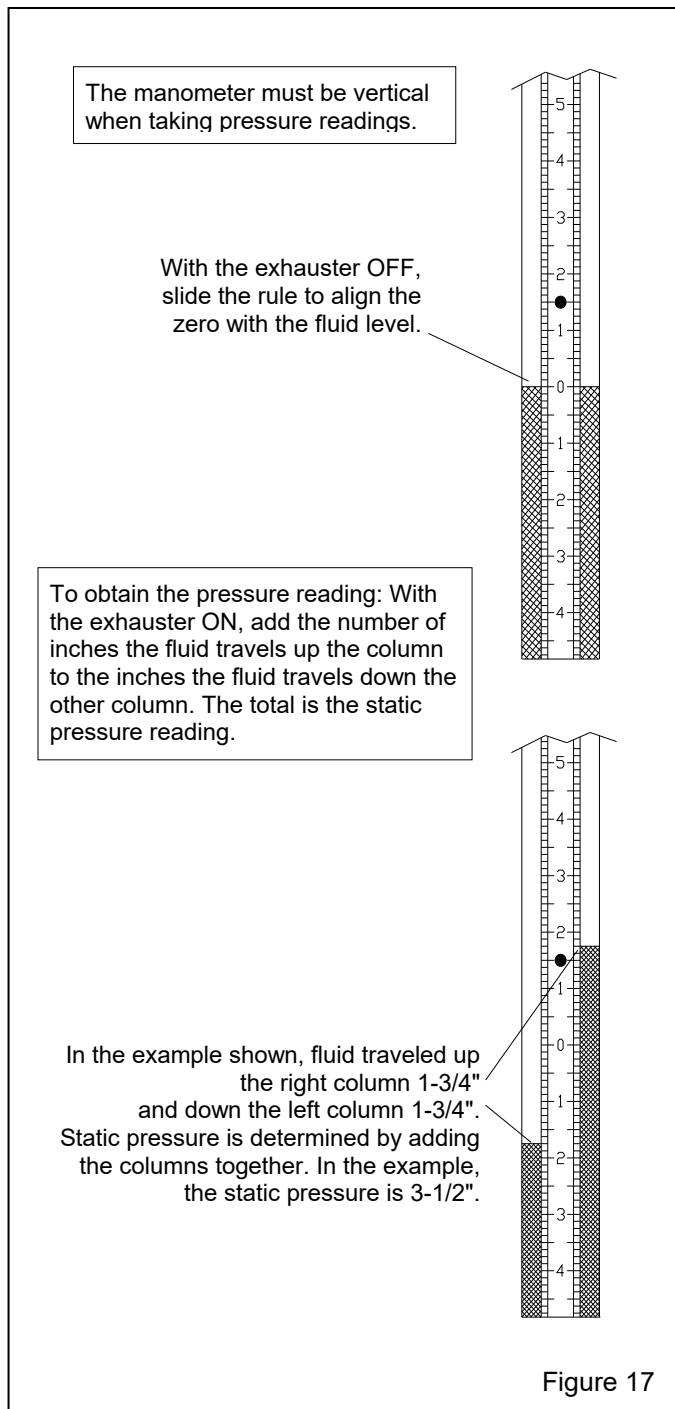

Figure 17
5.10.7 Adjust the slide rule to align the zero with the fluid level. Refer to Figure 17.
5.10.9 To find the static pressure, add the number of inches the fluid travels up one column to the inches the fluid travels down the other column. Refer to the example in Figure 17.